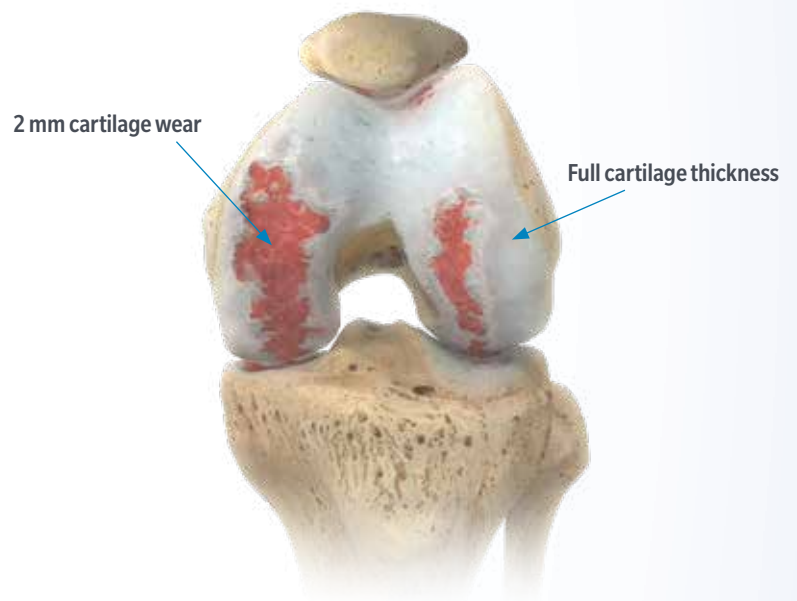

Figure 2: Distal Condyle Landmarks
- **Femoral Distal Condyles:** On the less affected condyle, the landmarks should be taken on the most distal part of the condyle with full cartilage thickness. The landmarks on the more affected condyle should be taken directly on the bone or region of most cartilage wear, avoiding regions of bony wear (Figure 2). When selecting the resection reference landmarks on the two condyles, the surgeon should estimate the thickness of cartilage wear on the more affected condyle (e.g., 2 mm).